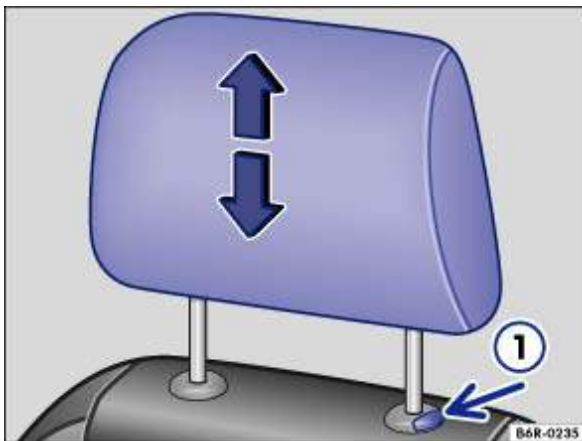
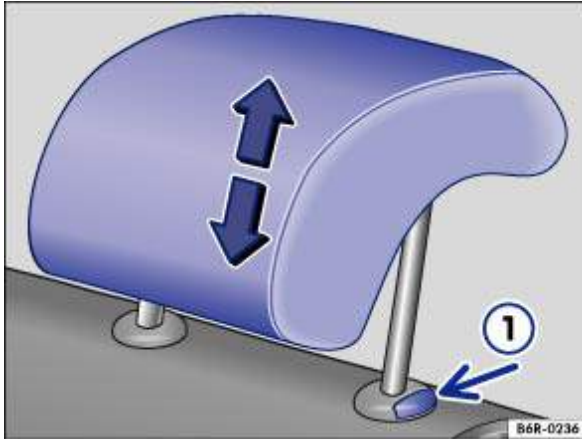

Fig. 43 Adjusting front head restraint
Fig. 44 Adjusting rear head restraint
- Push the head restraint up in the direction of the arrow or push it down with the button pressed → Fig. 43  or → Fig. 44  → .
- Pull the head restraint out while pressing the ① → Fig. 43 or → Fig. 44 button.
- Press and hold the ① → Fig. 43 or → Fig. 44 button and push down the head restraint.